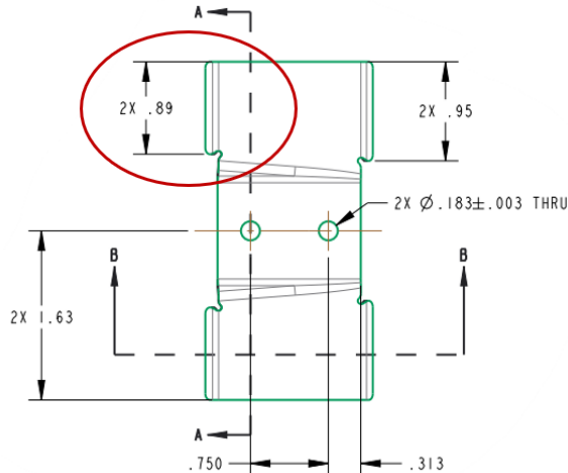

Figure 3. Bracket Dimensions
- c. Permissible to remove up to .400" from the bracket; however, material may have previously been removed. Measure the bracket to ensure that the total amount of material removed does not deviate more than .400" from what is shown in **Figure 3**.